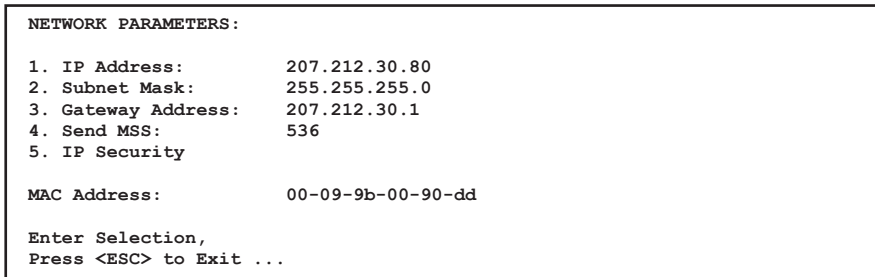

Figure 5.10: Network Parameters Menu - Text Interface
- **Text Interface:** Type **/N** and press **[Enter]**. The Network Parameters Menu will be displayed as shown in Figure 5.10.